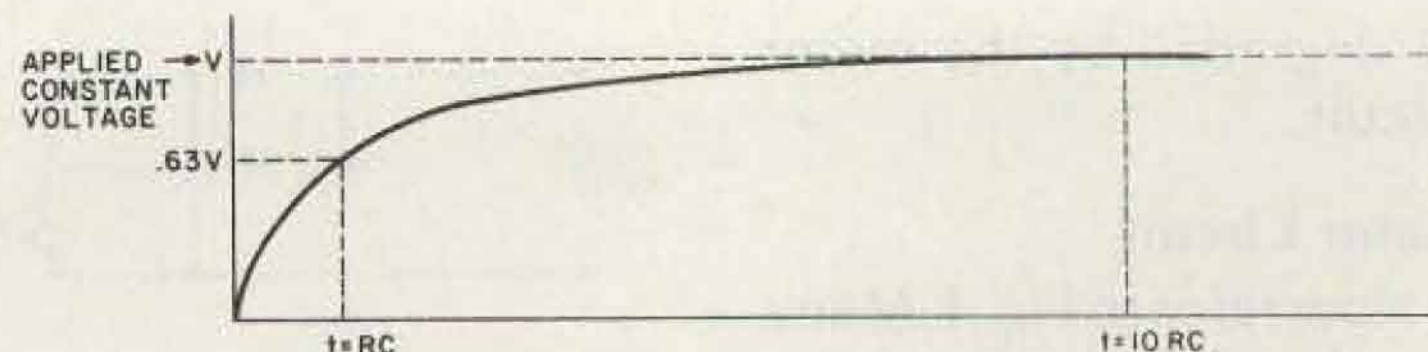

Fig. 5.
The graph in Fig. 5 shows the amount of time represented by RC . If we multiply the equation by ten, however, we come very close to the time it takes for the capacitor to reach full charge. So, let $t = 10RC$, where t is now the time it takes the total charge (Q) to move into the capacitor through the resistor (R).